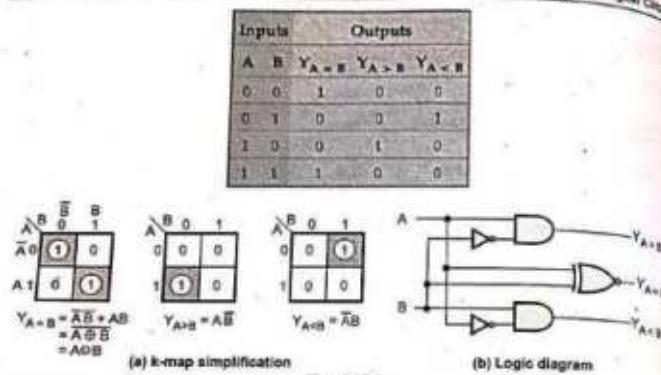

Fig. 4.18.3
**Note** We can also use outputs  $A = B$  and  $A < B$  to generate the third output  $A > B$ . This is illustrated in Fig. 4.18.3.